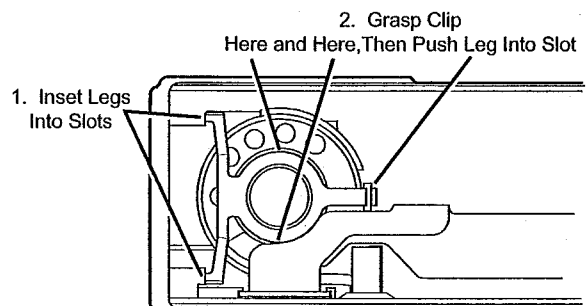

Figure 3.10
- Reinstall the speaker retainer bracket (See Figure 3.10).